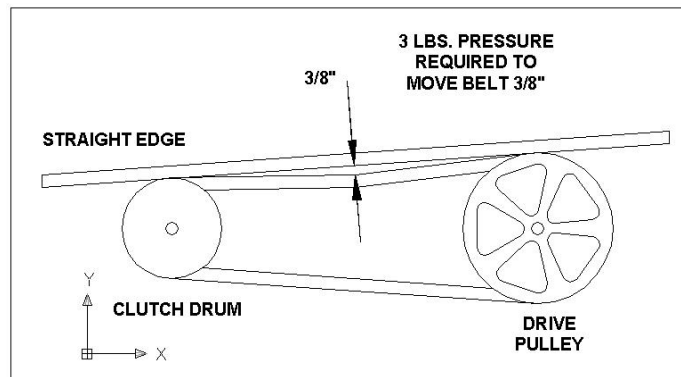

Figure 1
The belt on your chipper should deflect $\frac{3}{8}$ " under three pounds of pressure as shown in figure 1 below. If it doesn't, adjust per the following directions.
- Tighten or loosen the nut (#31, pg 29) on the belt tensioner (#14, pg 29) until you have the correct tension as shown in figure 1.